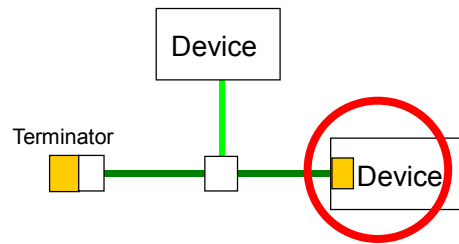

Fig.5
- 2) Use the sides of the T-connectors to construct the backbone of the network. (Furuno CAN bus device with an internal terminator is connected to the side of the T-connector.) Fig.5